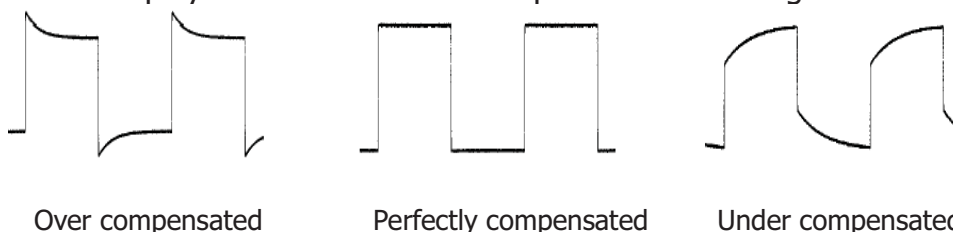

Figure 1-9 Probe Compensation
2. Check the displayed waveforms and compare them with Figure 1-9.